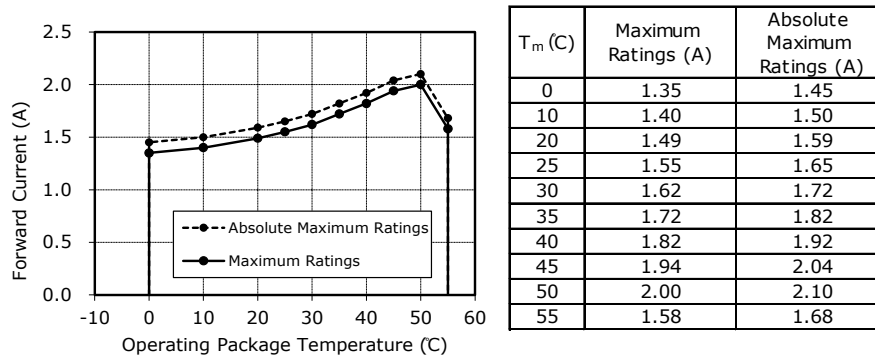

Figure 1. Derating Characteristics
1 The maximum rating provided in Figure 1 should not be exceeded.
- This LD is a semiconductor device that has a high current density during operation in the emission layer. Exceeding the Absolute Maximum Ratings may damage the LD. The circuit must be designed to ensure that the Absolute Maximum Ratings (see Absolute Maximum Ratings and Figure 1) are not exceeded even if the LDs are operated only for a short period of time.
- Since the lifetime of the LD will become shorter as the operating current and/or the optical output power becomes larger, the maximum ratings provided in Figure 1 should not be exceeded.